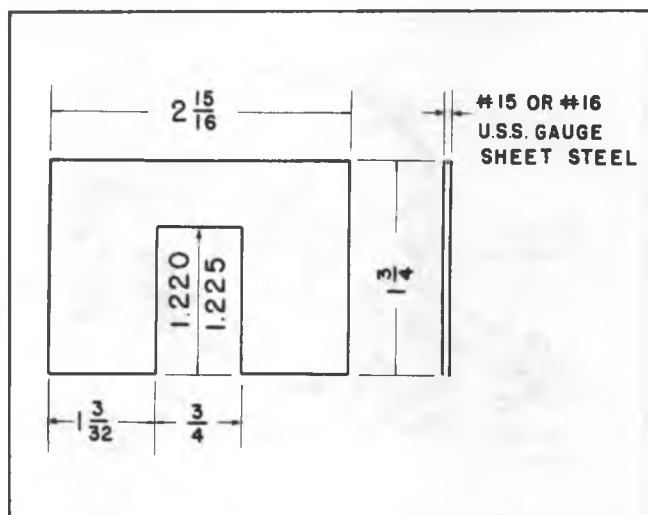

Fig. 10C-Push Rod Gauge
**NOTE:** If push rod height adjustment gauge is not available, the required dimensions for fabrication are given in Figure 9B for Truck and Figure 10C for Corvette.